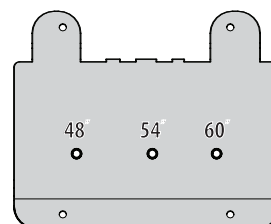

Figure 9
- Using Figure 9, locate the correct mounting hole location on the mounting plate for your tractor.